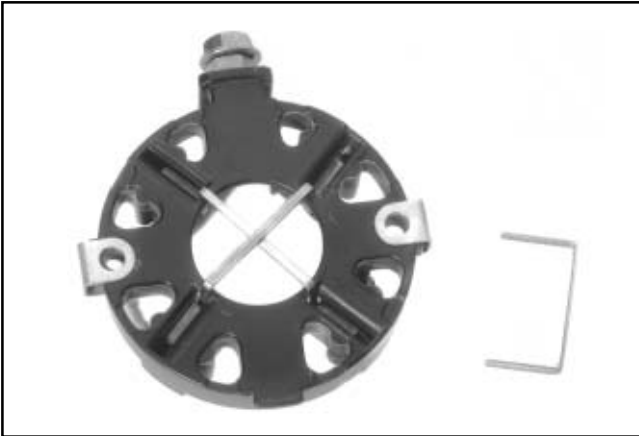

Figure 8-38. Style "B" Commutator End Cap with Brushes.
4. If the brush assembly is not being replaced, position the brushes in their pockets in the carrier. Move them to the retracted position, and install carton staples to retain them. See Figure 8-38.